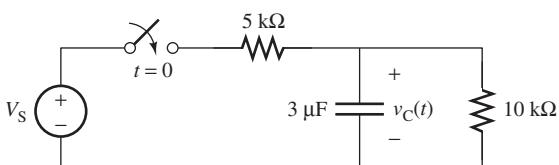

FIGURE P5.8 Circuit for Problem 5.8.
- 5.8** (H) At $t = 0$, the switch in Figure P5.8 is opened after being closed a long time. At what time t is $v_C(t)$ equal to $\frac{1}{2} V_S$?